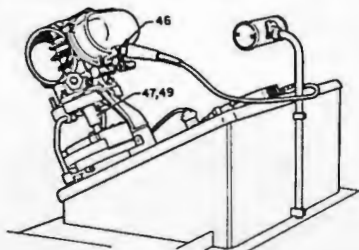

Fig. 10
- 47 Turn distributor shaft until left hand points are closed (right hand points open) (Fig. 10).